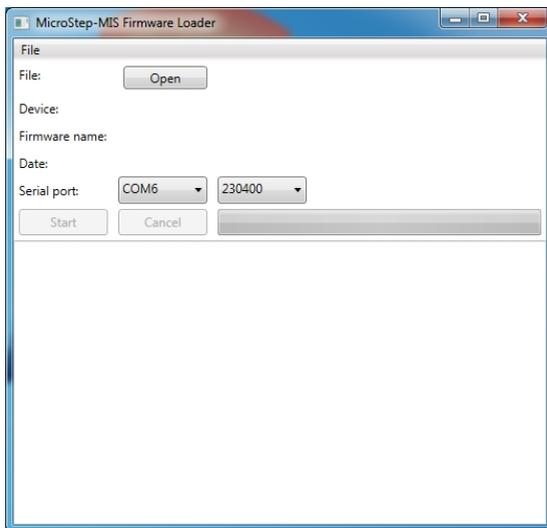

Figure 9: Firmware Loader basic window
1. Start the program Microstep-MIS Firmware Loader, as seen in figure 9 and click on button **Open**.